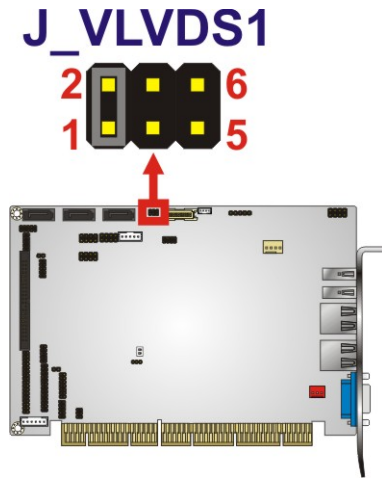

Figure 4-6: LVDS Voltage Selection Jumper Pinout Locations
- Jumper Location:** See **Figure 4-6**
The LVDS Voltage Selection jumper location is shown in Figure 4-6.